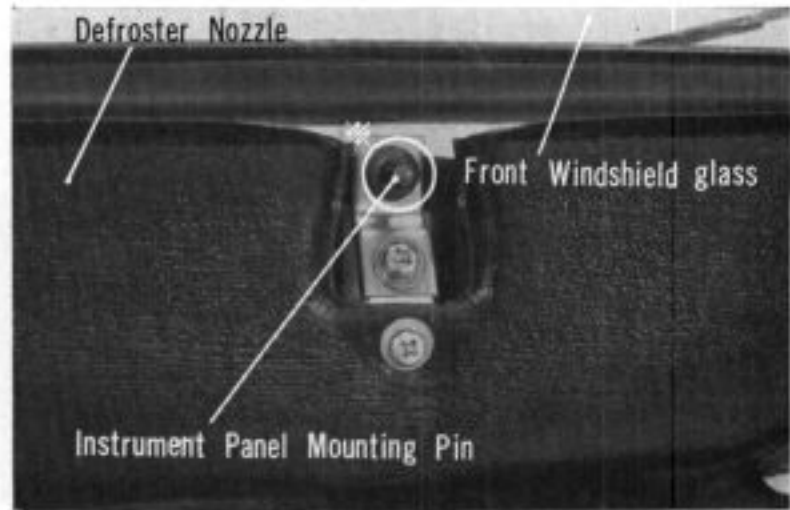

Fig. 18K-16
* Fit the instrument panel center stay * in Fig. 18K-14 to the pin.